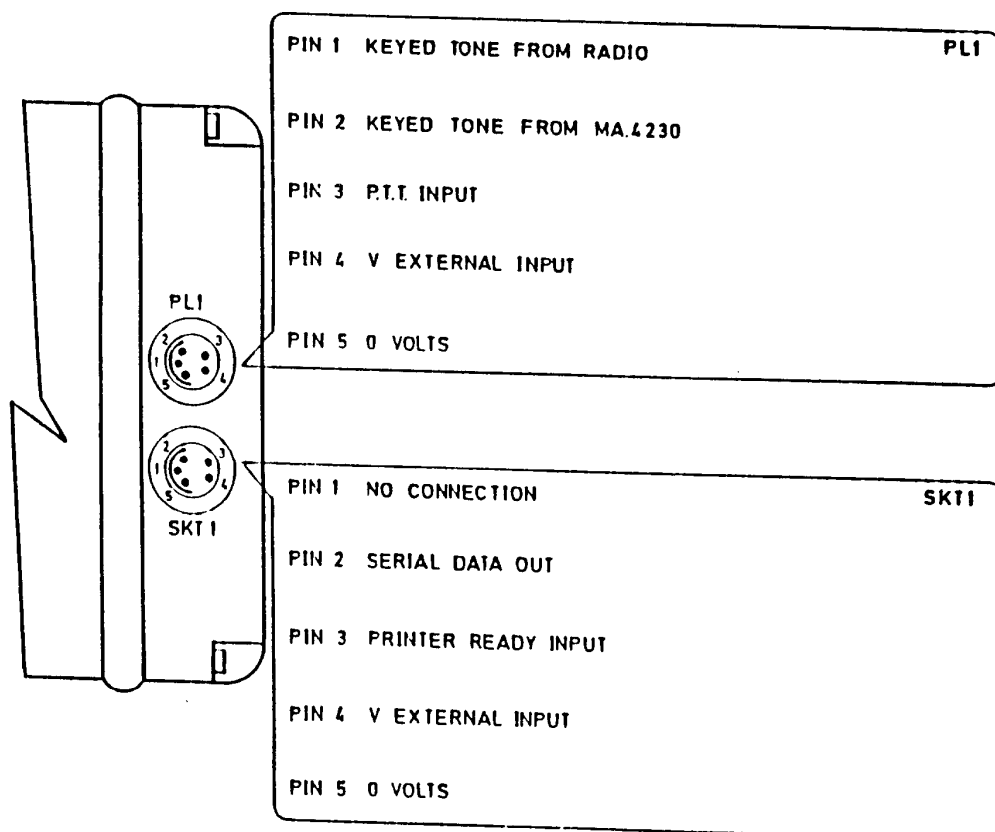

Fig. 3.2.1
- 1.1 Figure 3.2.1 shows the interconnection details to plug 1 and socket 1.